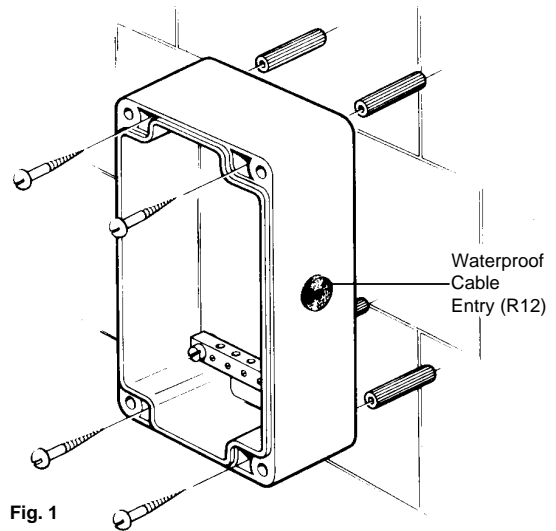

Fig. 1
1. Decide on the most convenient cable entry. Remove the front cover by taking out the four securing screws and drill the required hole in the side or back of the test point. Fit a suitable waterproof cable entry. (Fig. 1) Note: The R1 cover will only fit one way round.